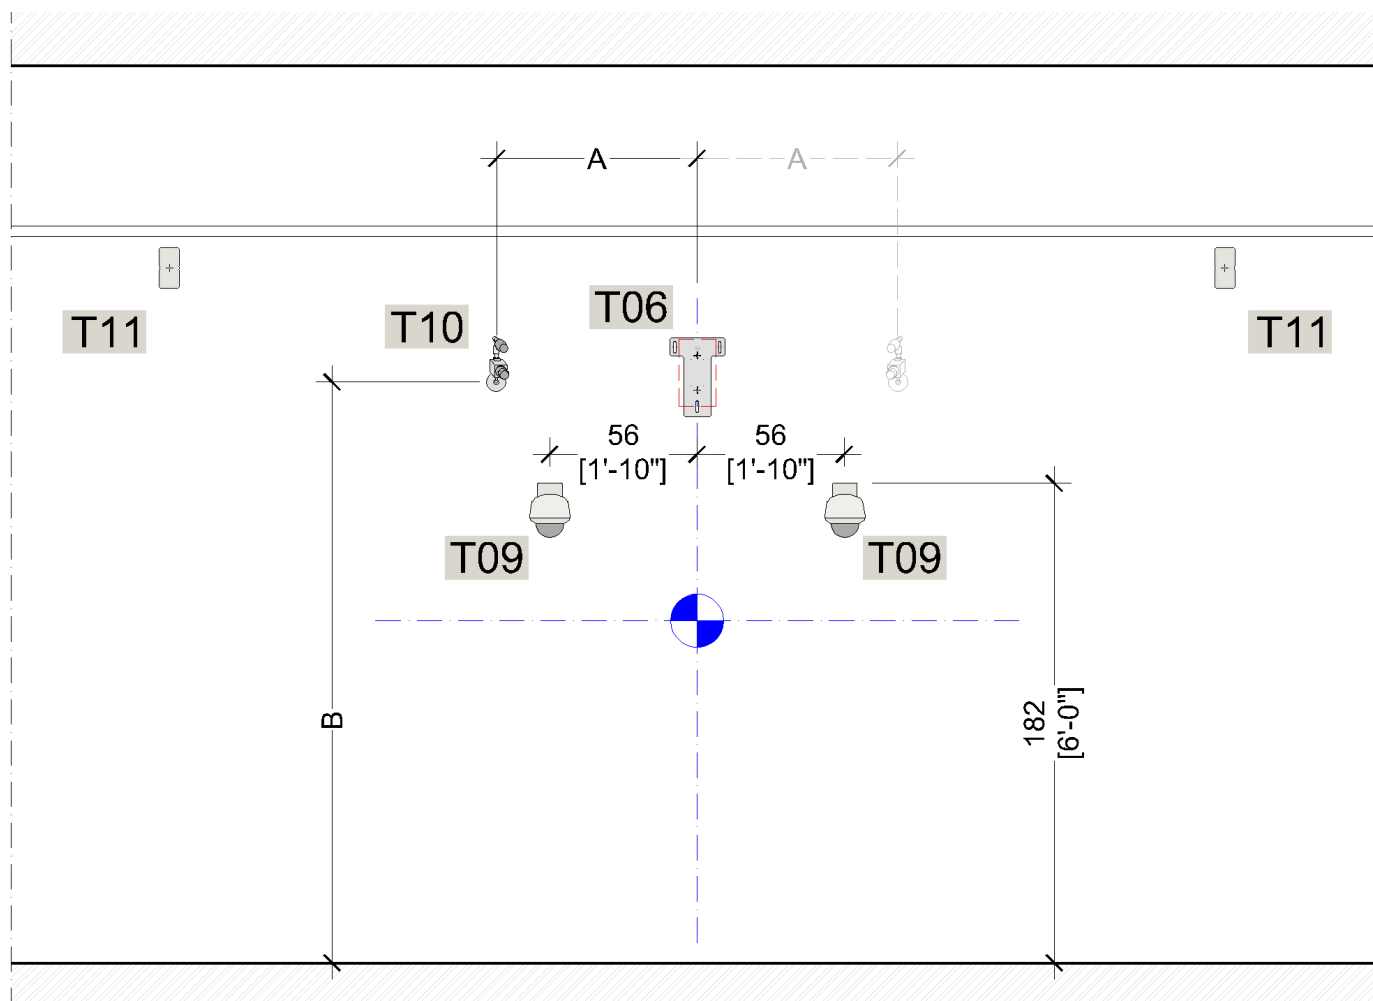

Figure 3-6 Treatment Room Sagittal Wall (Elevation)
A Closed-Circuit Television (CCTV) system is required for safe operation. It is critical to patient safety that the therapist always maintain visual contact with the patient, see Figure 3-6 and Section 4.5 for more information.
- See Figure 3-6 Treatment Room Sagittal Wall \(Elevation\) for mounting post location.
- See Figure 3-6 Treatment Room Sagittal Wall \(Elevation\)
- The primary MotionView CCTV (**T09**) two-camera system location shown in Figure 3-6 is MANDATORY for patient safety.
- The sagittal Laser Mounting Plate (**T06**) installation height is variable, 230cm [7'-6"] is the recommended height to avoid any obstructions with the laser alignment beam, see Figure 3-6. Consult with the laser manufacturer and customer on the desired elevation.